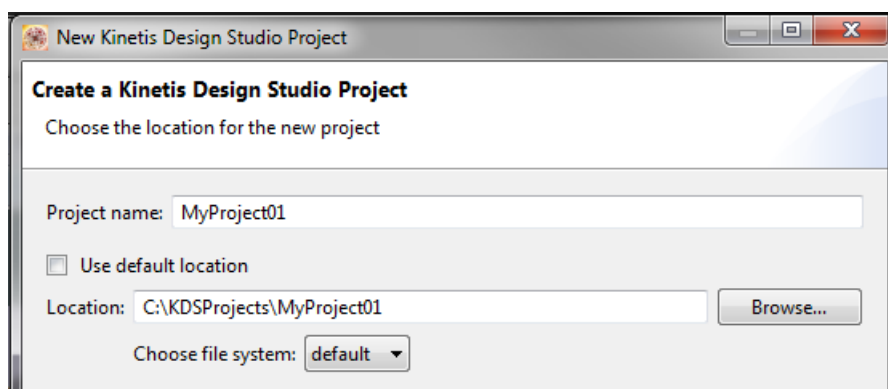

Figure 1-1. Project name and location
4. If you don't use the default location, untick the Use default location checkbox, and type the path where you want to create the project folder (for example, C:\KDSProjects\MyProject01) and click Next. See Figure 1-1.